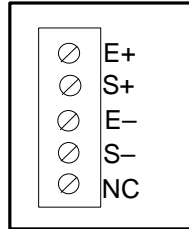

Figure 2-7: Connection assignments for the Load Cell Terminal
1. Connect your shielded load cell cable (not included) to terminal J3B on the piggyback board. Connection assignments for the Load Cell Terminal are shown in Figure 2-7.